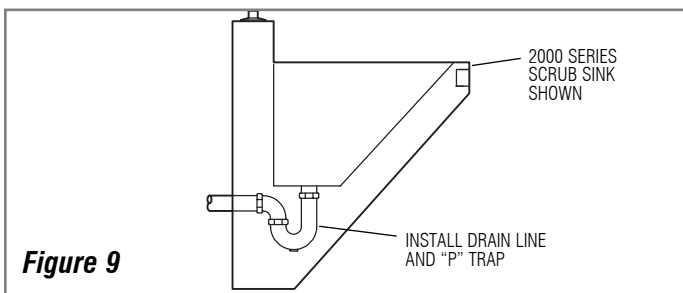

Figure 9
Step 7 — Install Drain (Figure 9)